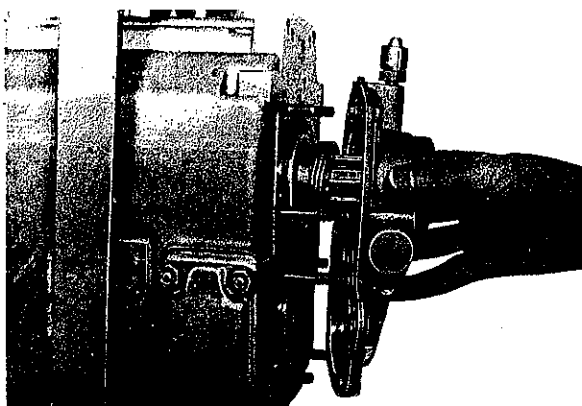

Fig. 55
Insert washers (801). Coat sealing surface of tachometer cover with sealing compound and place on housing (Fig. 55).